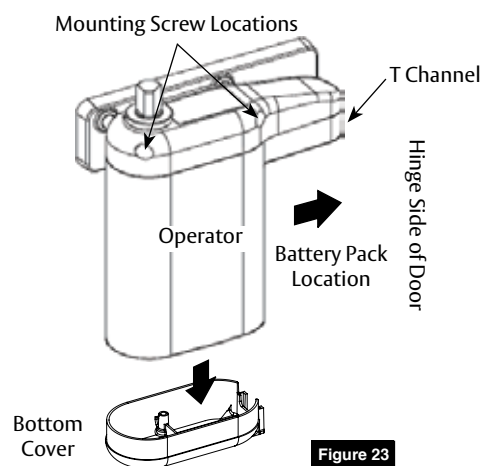

Figure 23
3. Remove bottom cover of operator. (Figure 23)
4. Remove battery pack from operator by sliding it off T channel. (Figure 23)
5. Insert two (2) ¼-20 x 38mm socket head cap screws into operator. (Figure 23)